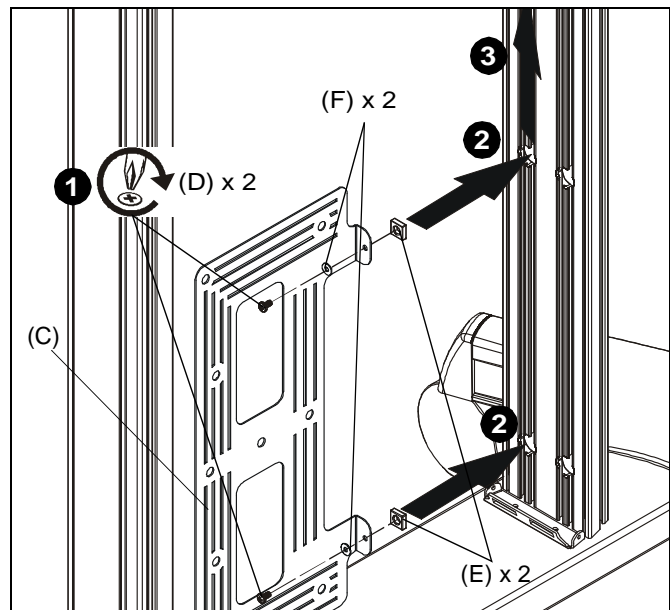

Figure 6
1. Loosely install two #10-24 x 3/8" Phillips head machine screws (D) through two #10 washers (F), holes in component bracket (C) and into two #10-24 square nuts (E). (See Figure 6)
2. Insert two #10-24 square nuts (E) into two openings on column channel. (See Figure 6)
3. Lift component bracket (C) to desired mounting position. (See Figure 6)
4. Tighten screws to a torque force of 10 ft-lbs. (See Figure 6)